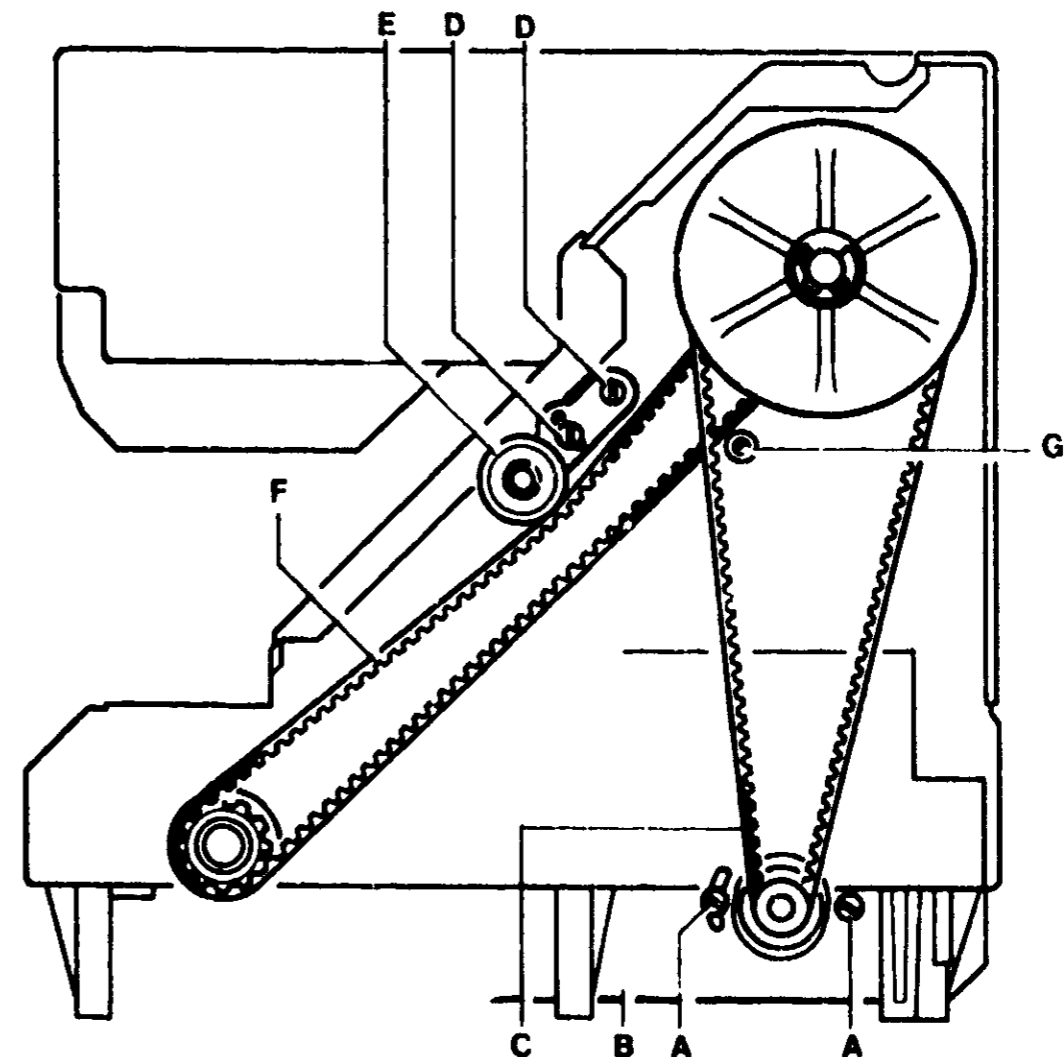

FIGURE 53
- Loosen motor mounting screws (A) slightly (Figure 53). Raise motor (B) and remove drive belt (C)
- Loosen screws (D) slightly to reduce tension on timing belt (F)
- To reinstall upper shaft reverse the disassembly procedure. Be sure that timing belt (F) is located above stud (G) (Figure 53).
- After installing timing belt needle timing to feed must be checked. For needle timing to feed and proper tension of belts (F) and (C) (Figure 53) refer to Section 2C.4.4.